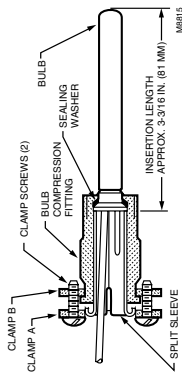
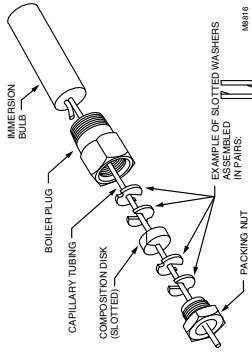

Fig. 3. Bulb compression fitting.
Fig. 4. Capillary compression fitting.
Depending on model and installation requirements, install the temperature sensing bulb either in an immersion well (see Fig. 2) that extends into the boiler or tank, or directly immerse the temperature sensing bulb in the liquid. For installations not using a well, secure the bulb with a bulb compression fitting (see Fig. 3), or a capillary compression fitting (see Fig. 4). Order the well or the fitting separately.
4. Place composition disc and 4 slotted brass washers on tubing in the order shown in Fig. 4. Turn brass washers so that slots are 180 degrees to each other.